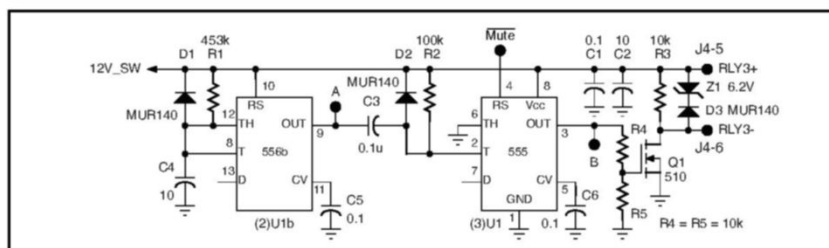

Figure 11: The speaker turn-on delay timer and loudspeaker protection flip-flop are described in this schematic.
Figure 11 shows the speaker turn-on delay timer, (2)U1b, and loudspeaker protection flip-flop, (3)U1. As 12V_SW goes High, flip-flop (3)U1 is held in reset by the POR circuit, which keeps the Mute(–) node Low for approximately 52ms. Any uncleared fault will continue to hold this node Low after the POR pulse goes away. When reset, the flip-flop's output is Low, Q1 is off, and there is no voltage across the speaker relay connections (RLY3+, RLY3–).